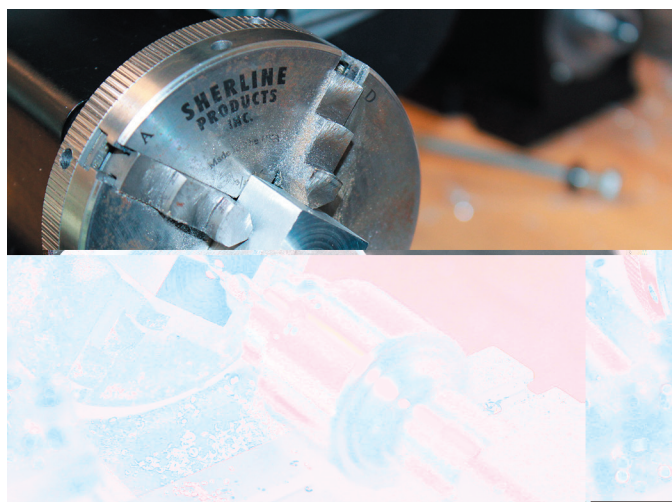

Figure 2—Center drilling the first side.
1. Center drill and drill the 1/8" hole through the part from three sides. (See Figures 2 and 3.)